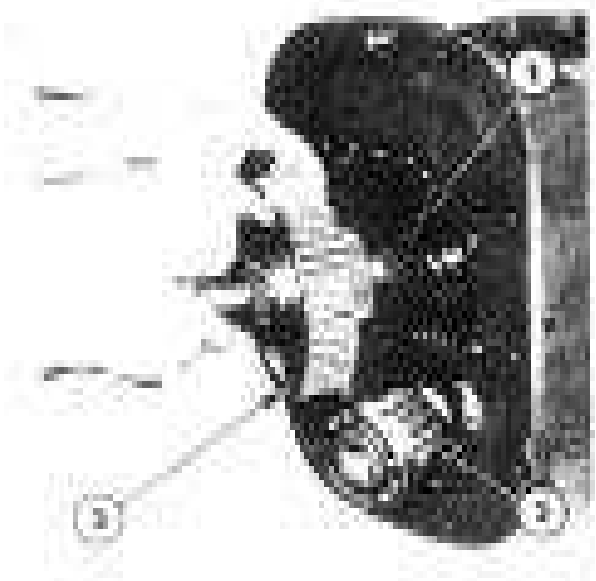

Figure 19
3. Partially withdraw the secondary countershaft until the front bearing is free from its location. Rest the assembly on the bottom of the compartment and withdraw the output shaft assembly, Figure 19. The secondary countershaft can then be lifted out.